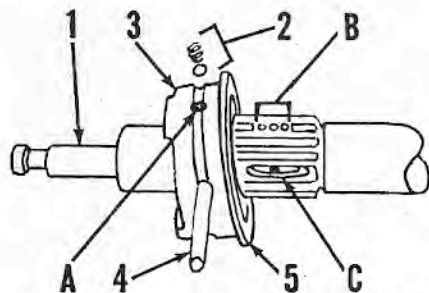

Fig. WB66—Assembling the shift mechanism to propeller shaft. Refer to text.
To assemble the propeller shaft, refer to Fig. WB66. Install the retaining ring on one edge of clutch dog (3) and assemble to propeller shaft making sure the detent hole (A) is aligned with the detents (B) in propeller shaft splines. Insert the shift shaft (1) and align the pin hole with slotted hole (C) in propeller shaft. Align the cross pin hole in clutch dog and insert the small end of cross pin (4) through clutch dog (3), slotted hole (C) and pin hole in shift shaft (1). Drive the cross pin into position. Install the detent ball and spring (2) in detent hole (A), and hold in place with screwdriver or punch until secured by retaining ring (5).